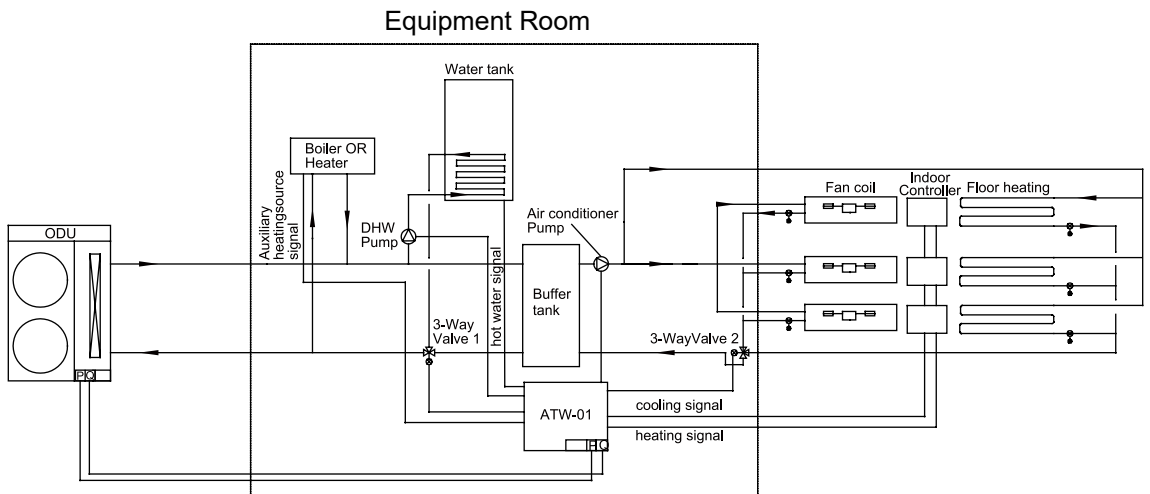

Fig.4 DHW controlled by User's controller
- User sends on/off to CN22 while Outdoor PCB BM1-1 will be set to ON (Fig.4).